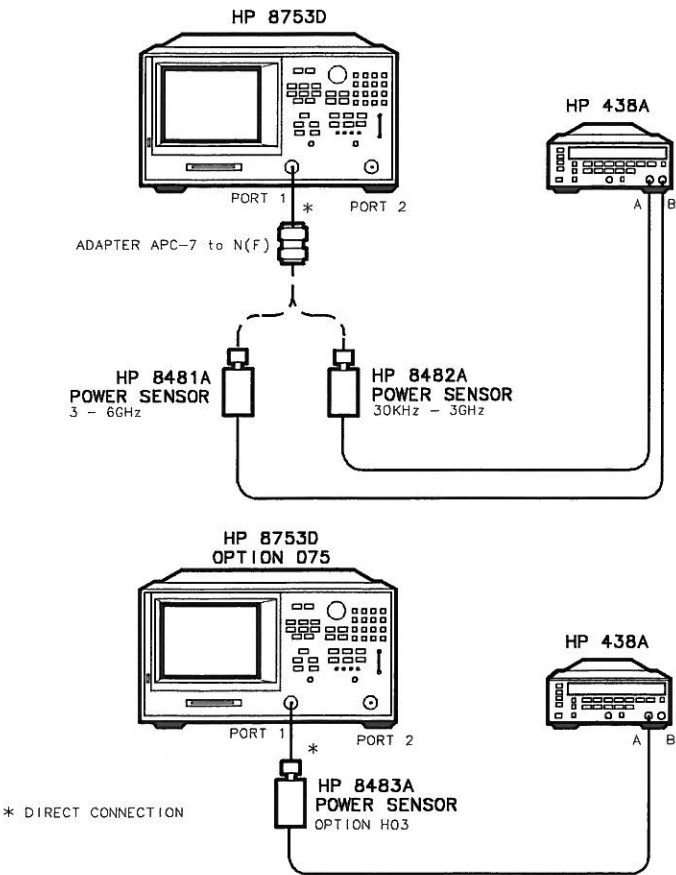

Figure 1-17. Test Port Output Power Range and Accuracy Test Setup
- 3. Connect the equipment as shown in Figure 1-17.